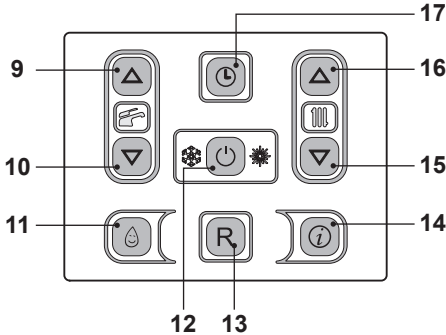
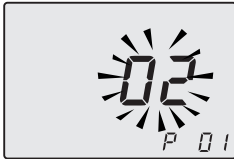
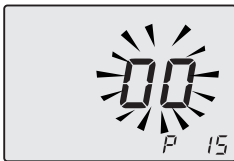

Fig. 7.20
Fig. 7.21
Fig. 7.22
keys 12 - 15 - 16 (Fig. 7.20) for 10 seconds at the same time until the letters **P01** are displayed on the LCD display, indicating that "parameter 01, has been activated (Fig. 7.21).
- Scroll the various parameters using keys 15 or 16 until the letters **P15** are displayed on the LCD display, indicating that "parameter 15" (Fig. 7.22) has been activated.
- By pressing key 12 (Fig. 7.20) confirmation of the inserted value is obtained.
- Press keys 15 or 16 (Fig. 7.20) to exit without changing the value Fig. 7.22)
However, if the ambient temperature is not comfortable, the flow temperature of the heating plant can be increased or reduced by $\pm 15^{\circ}\text{C}$ by acting on keys 15 (reduce) and 16 (increase) (Fig. 7.20).